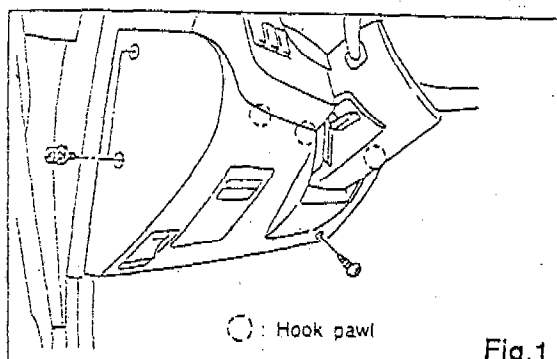

Fig.1
- (1) Turn ignition switch OFF.
- (2) Disconnect the ground cable from the battery and wait for at least 20 seconds before starting work.
- (3) Remove instrument panel lower cover (Fig1).